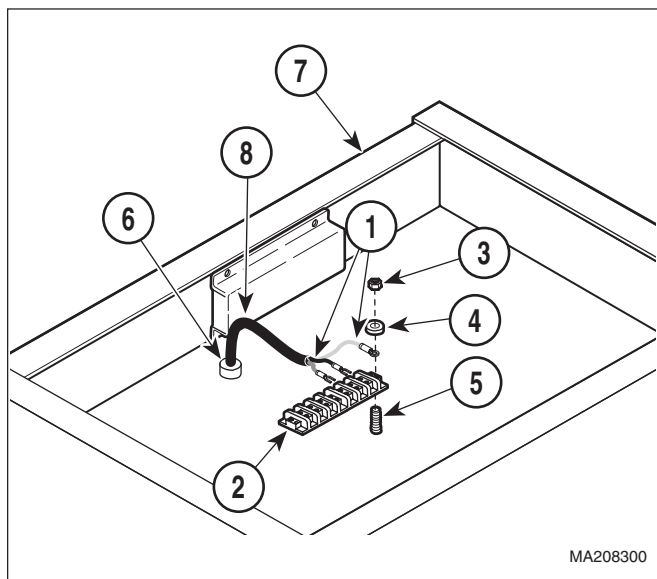

Figure 4-13. Disconnecting / Connecting Vacuum Pump Assembly Wire Harness
- (1) Remove control box cover (Refer to para 4.1).
- (2) Tag and disconnect two wires [EARLY UNITS ONLY] (1, Figure 4-13) from terminal block (2). On Newer Versions Unplug from PC Board.
- (3) (-001 & -002) Remove nut (3); then tag and disconnect wire (4) from ground stud (5). (-003) Connect into PC Board. Does not have a ground stud.
- (4) (-001 & -002) Remove strain relief bushing (6) from cabinet weldment (7) and wire harness (8). (-003) No strain relief. Cut cable tie and replace.
- (5) Pull wire harness (8) down through wire hole in cabinet weldment (7).
- (3) Coat threads of elbows (5 and 8) and exhaust silencer (7) with pipe thread sealant.
- (4) Install elbow (8) and exhaust silencer (7) on vacuum pump assembly (9).
- (5) Install elbow (5) on vacuum pump assembly (9).
- (6) Push end of tube (6) firmly into release ring of elbow (5).
- (7) Install motor cover (2) under two flaps on cabinet weldment (4) and secure with two finger screws (3).
- (8) Install vacuum bottle (1) in motor cover (2).
- (9) Push wire harness (8, Figure 4-13) up through wire hole in cabinet weldment (7).
- (10) Install strain relief bushing (6) around wire harness (8), and then insert strain relief bushing in wire hole of cabinet weldment (7).
- (11) Install wire (4) on ground stud (5) and secure with nut (3).
- (12) Connect two wires (1) to terminal block (2).
- (13) Install control box cover (Refer to para 4.1).